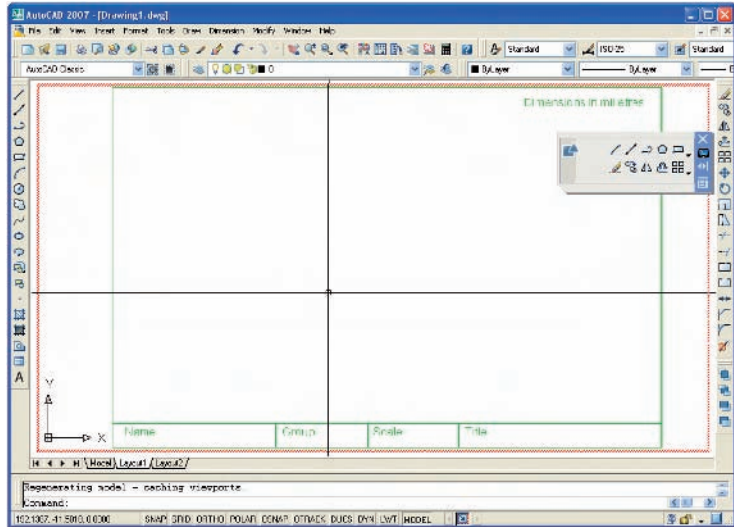

Fig. 4.26 The **A3_template.dwt**
A template **A3_template.dwt** – Fig. 4.26
1. The outline for this template is a pline from **0,290** to **420,290** to **420,0** to **0,0** to **290,0** and of width **0.5** (Fig. 4.26).